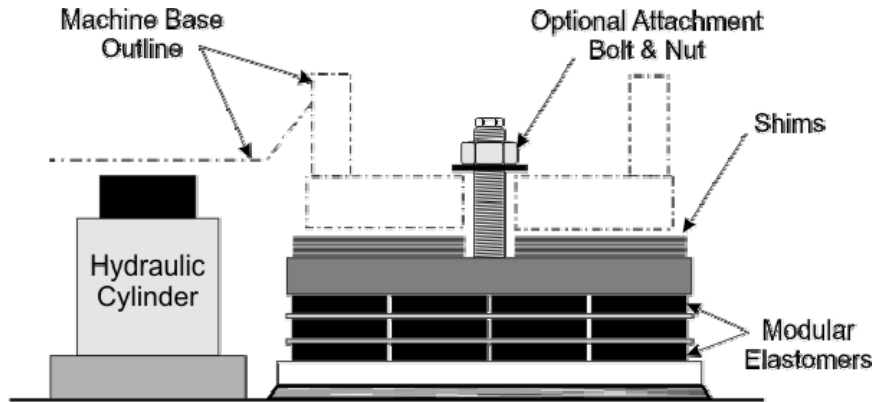

Figure 5
A Shim Pack, consisting of six 0.063" (1.6 mm) thick steel sheets and ten 0.04" (10 mm) thick anti-slip material pads, is provided for leveling. The shims are placed between the machine foot and the isolation element. See Figures 5 and 6. The steel and anti-slip material shims should be alternated to avoid steel-on-steel contact. A greater number of the anti-slip material shims are provided for finer leveling adjustments.
- **MXBN** isolation elements require external lifting devices, such as an overhead crane or hydraulic cylinders placed outside of the isolation elements, to insert shims between the top of the isolation element and the machine foot. See Figure 5.